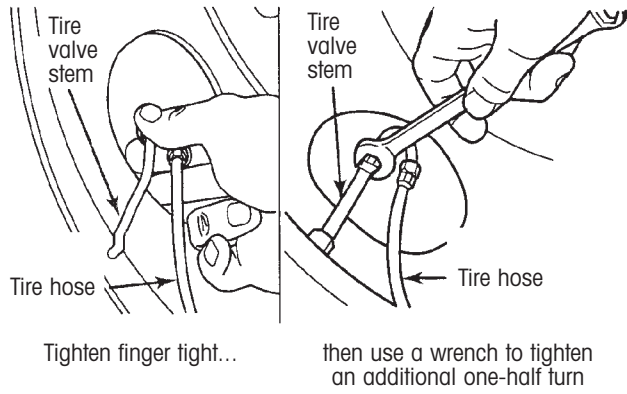

Figure 7. Attaching the tire hose to the tire valve stem
2. Attach the tire hose(s) to the tire valve stem(s) and tighten finger tight (figure 7).
3. Using a 7/16-inch wrench, tighten the tire hose / valve stem connection an additional one-half turn (figure 7). **Do not overtighten this connection.** The hose connections are tight enough when moving the hose back-and-forth does not cause the connection to move.